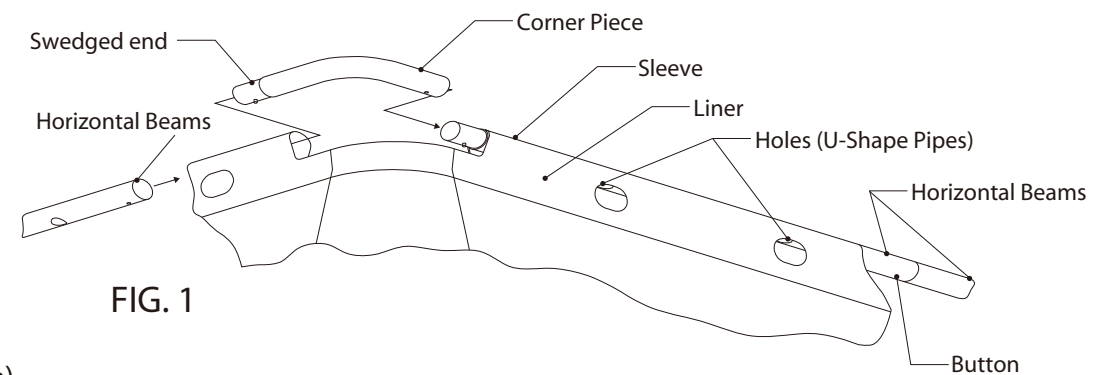

FIG. 1
2. Locate the four metal (Corner Pieces) of pipe Fig. 1, then place one at every corner of the pool. Now locate the (Horizontal Beams), insert a (O-Shape Spring) see Fig. 2 in each smaller swedged end of these only to join the beams together in length, Note: No O-Shaped Springs are used in the Horizontal Beam end attaching to the corner pieces or in the corner pieces themselves, please see the assembly drawing page 5 for proper O-Shaped spring locations.
direction around the pool with all swedged parts pointing clockwise) see Fig. 1 and refer to the **5** “View of All Frame Assembly Parts” shown on page 5.
5. Connect the (Horizontal Beams) together pushing the button in as you insert one beam into the other beams end. Look through the locking hole in the beam as you join them, slightly rotate the beams until the button aligns with the hole and pops up, locking that beams end into the other beams end. Repeat this procedure for the remaining (Horizontal Beams) making certain the holes in the beams align with the openings in the pool sleeve Fig. 1 these holes are used for the U-Shape Pipe (end) and (side) supports. Next install the corner pieces **(again working in a clockwise direction with swedged ends pointing clockwise)**, slide them together and repeat this procedure for all corners, on the last corner it might be necessary to lift the final joining connection at an angle to allow the pipes to fit into each other slowly lowering the ends flat again then sliding them together until it fits in completely, this step may require two people. Now double check all (Horizontal Beam) and (Corner Piece) connections at this time.